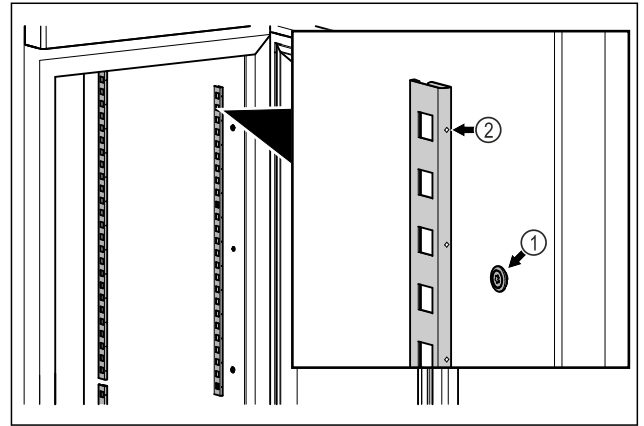

Fig. 85 Example illustration
- ▶ Hook the snap strips into the suspension Fig. 85 (1).
- ▶ Mark Fig. 85 (2) must point forward.